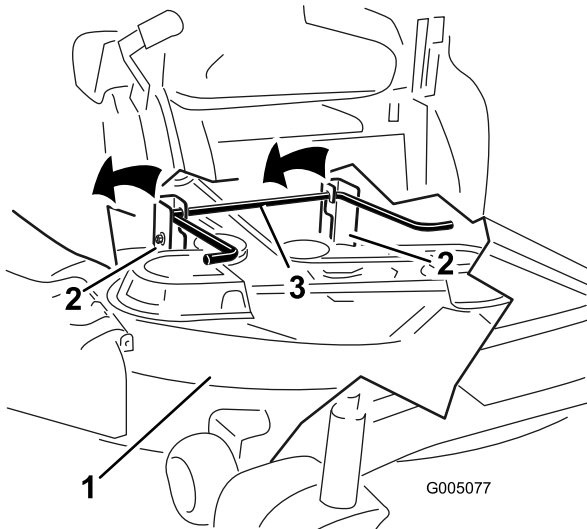

Figure 60
- 5. Lift the mower deck and hanger brackets clear of the rear lift rod, and lower the mower carefully to the ground (Figure 60).
- 5. Lift the rear of the mower deck and guide the hanger brackets over the rear lift rod (Figure 60).